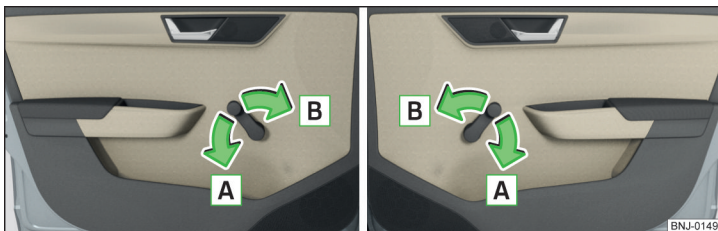

Fig. 38 Window operation: Left / Right
- To **open**, turn the crank in the direction of arrow **A** » Fig. 38.